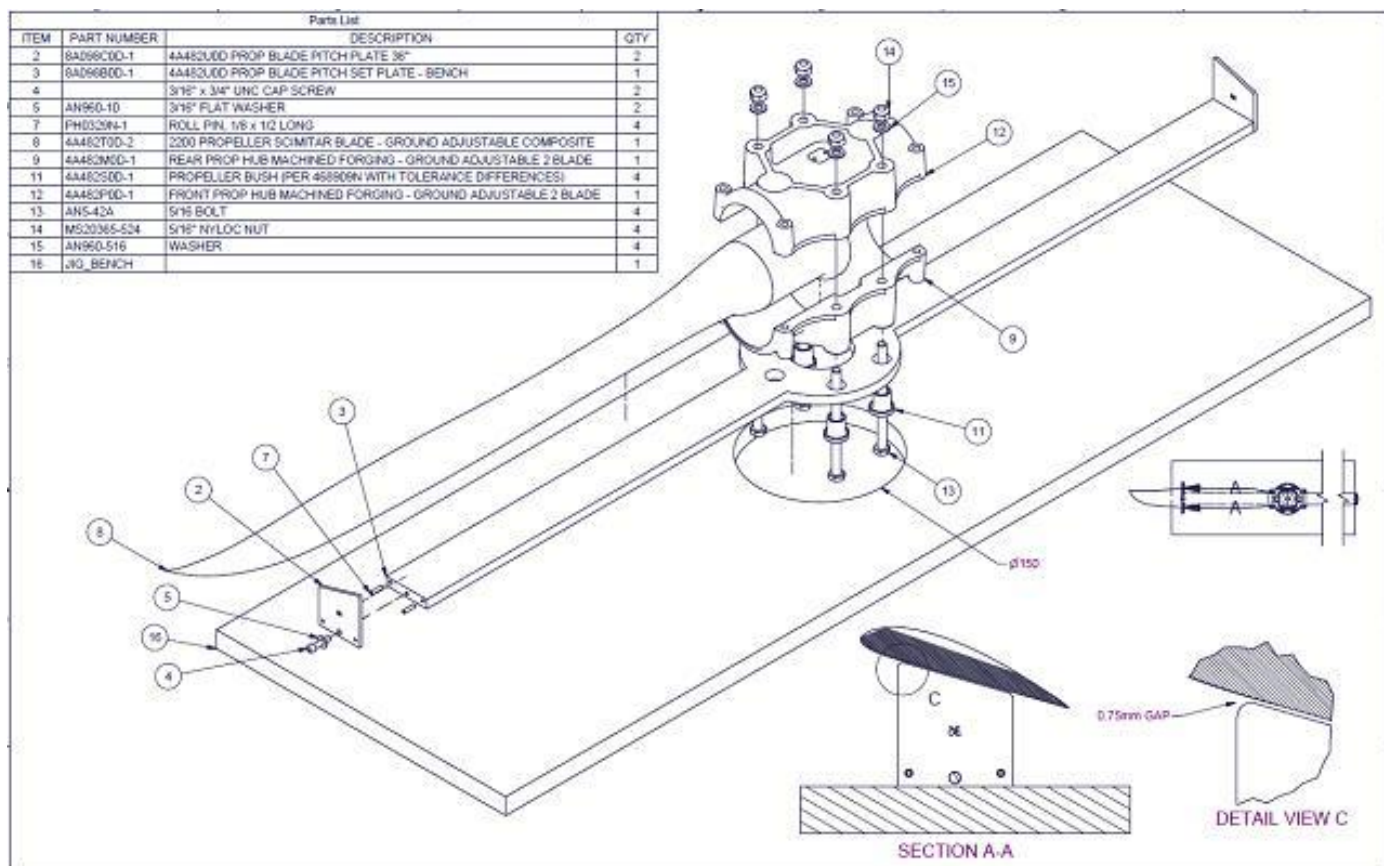

Figure 6 – Pitch Set Jig
The following procedure is the recommended method used to set the blade pitch of propellers not equipped with pitch lock pins. The setting Jig is shown in Figure 6.
1. Place the pitch setting jig on a flat, level surface. A special bench such as that shown in Figure 6 allows the assembly to sit level and the operator to adjust the 5/16" bolts without lifting it.